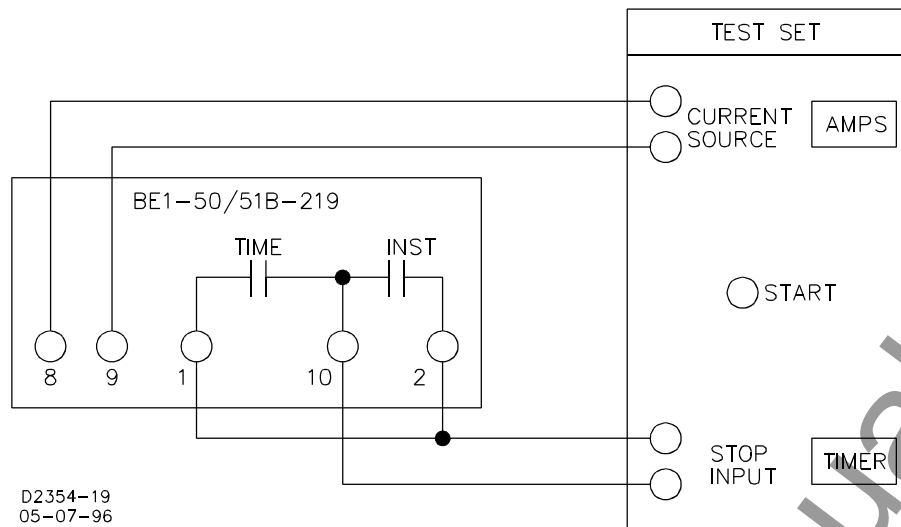

Figure 5-1. Pickup and Timing Test Setup
The following procedure verifies operation of the relay. The test setup of Figures 5-1 and 5-2 are intended primarily as an illustration of the principles involved. Other test setups known to be capable of testing with the stated and implied tolerances (including equipment specifically designed for testing relays) may be used.
- Connect test setup as shown in Figure 5-1.